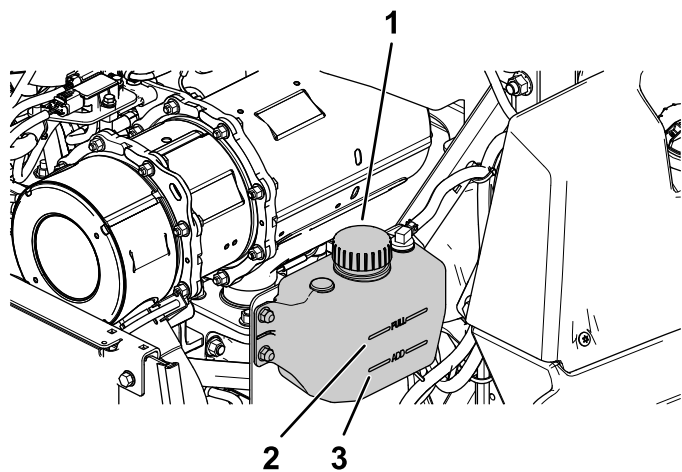

Figure 55
2. Check the level of the coolant in the expansion tank (Figure 55).
3. If coolant level is low, remove the expansion-tank cap, and add the specified coolant (Figure 55).